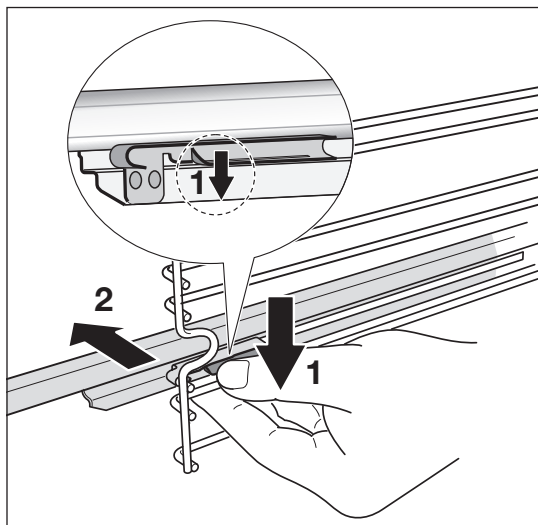

Figure 18
- Find the safety locks. These are the tabs that clip over the wire of the side rack (arrow 1 in Fig. 18).
- Pull the safety locks away from the wire to release the wire (arrow 2 in Fig. 18).